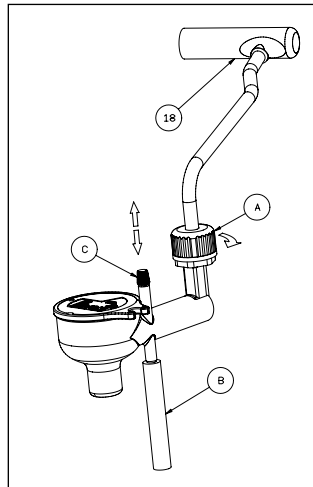

FIG 2
- Make sure that the steam tap knob (4) is closed, (picture B);
- Turn the steam pipe (12) clockwise until it stops and slip the steam pipe out of its seat, pulling it rightwards, (picture N);
- Slide the Automatic Cappuccino maker onto the steam pipe (18) up to the stop and tighten the locking ring (clockwise) (Fig. 2).
- Slip in its seat the device with the Cappuccino Automatic (17), pushing it leftwards, (Fig. 2). Turn the device with the Cappuccino Automatic (17) anticlockwise until it stops. replacement of the traditional steam pipe (12) with the Cappuccino Automatic (17) (an optional part on the models with black base) must take place before starting the machine.
- insert the silicon tube (20) in the milk container, placed next to the machine, (picture P);
- place the cup containing the previously prepared coffee under the nozzle of the Cappuccino Automatic, and open the steam tap knob (4) by turning it anticlockwise; this will start the delivery of emulsified hot milk, with abundant froth. To stop the delivery, close the steam tap knob (4), by turning it clockwise.
You can adjust the milk froth by acting on the pin (C) (Fig. 2), Cappuccino Automatic to have the desired consistency of cream. For a cream with greater volume, move the plug upwards (Fig. 2).